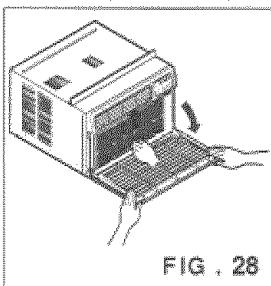

FIG . 28
- Pull the inlet grille forward, grasping both tabs, then pull out the air filter. (FIG. 28)